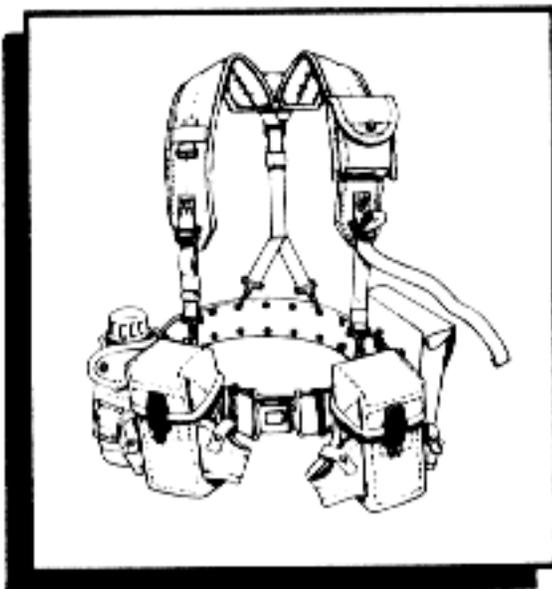

Figure 4-17. Adjusting the front and back suspender straps.
**Adjusting the Front and Back Suspender Straps.** After you have attached the equipment to the belt and suspenders, put it on and fasten the buckle. Adjust the length of the front and back suspender straps using the loose ends of the straps (figure 4-17). Pull down on the loose end of each strap to raise the belt. Lift the end of each strap to lower the belt. Secure the loose ends of the straps with the elastic loops. When you are finished, the belt should hang evenly at your waist, and the yoke should be positioned comfortably. Although you can adjust the back strap yourself, you can do it easier by using the buddy system.